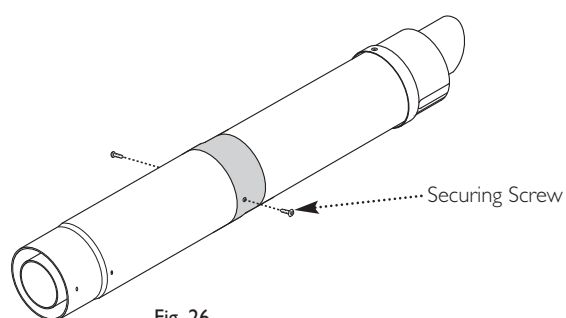

Fig. 26
9. Using the clearance holes in the Connection Assembly secure it to the Terminal Assembly using the screws supplied (Fig. 26).